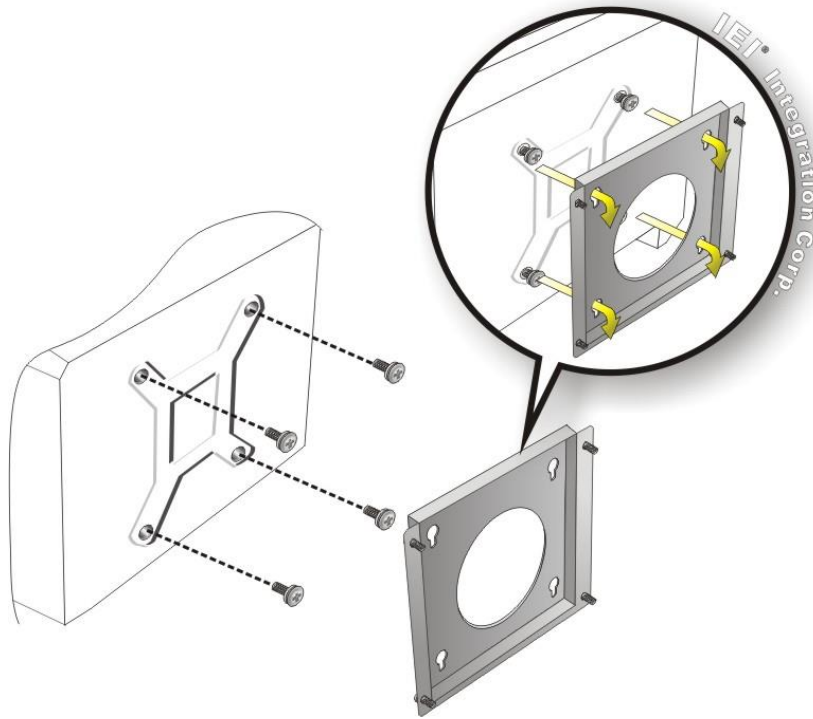

Figure 3-9: Mount the Chassis
- Step 6:** Insert the four monitor mounting screws provided in the wall mounting kit into the four screw holes on the rear panel of the monitor and tighten until the screw shank is secured against the rear panel (**Figure 3-9**).
- Step 8:** Carefully insert the screws through the holes and gently pull the monitor downwards until the monitor rests securely in the slotted holes (**Figure 3-9**). Ensure that all four of the mounting screws fit snugly into their respective slotted holes.